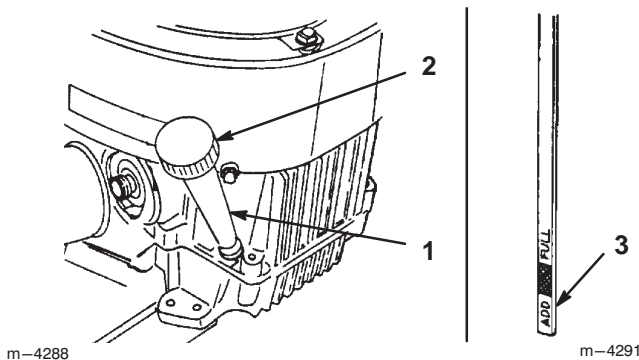

Figure 15
2. Clean around the oil dipstick (Fig. 15) so that dirt cannot fall into the filler hole and damage the engine.
3. Unscrew the oil dipstick and wipe the metal end clean (Fig. 15).
4. Slide the oil dipstick fully into the filler tube, but do not thread it onto the tube (Fig. 15). Pull the dipstick out and look at the metal end. If the oil level is low, slowly pour only enough oil into the filler tube to raise the level to the "FULL" mark on the dipstick.
5. Clean around the oil dipstick and unscrew the cap (Fig. 15).
6. Slowly pour approximately 80% of the specified amount of oil, page 21, into the filler tube (Fig. 15). Check the oil level; refer to Checking the Oil Level, page 21. Slowly add additional oil to bring the level to the "FULL" mark on the dipstick.